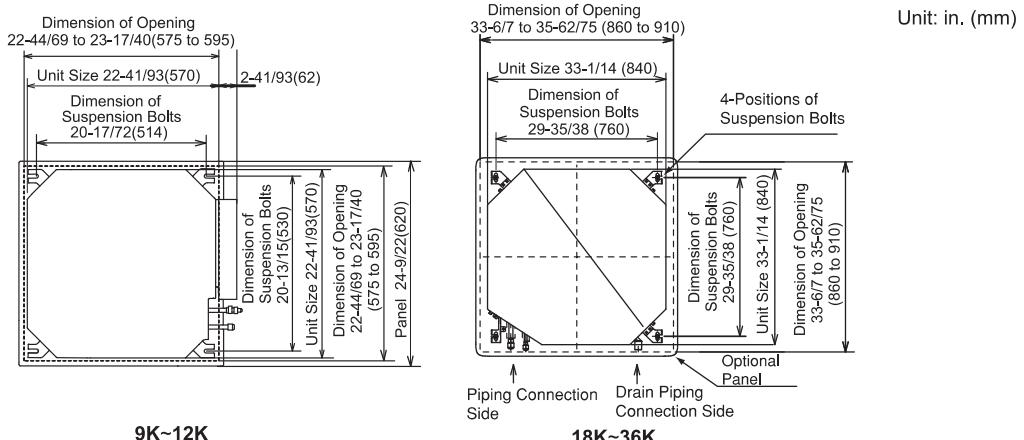

Fig.3.3 Opening of False Ceiling and Suspension Bolts
(2) Cut out the area for the indoor unit in the false ceiling and install suspension bolts, as shown in Fig. 3.3.